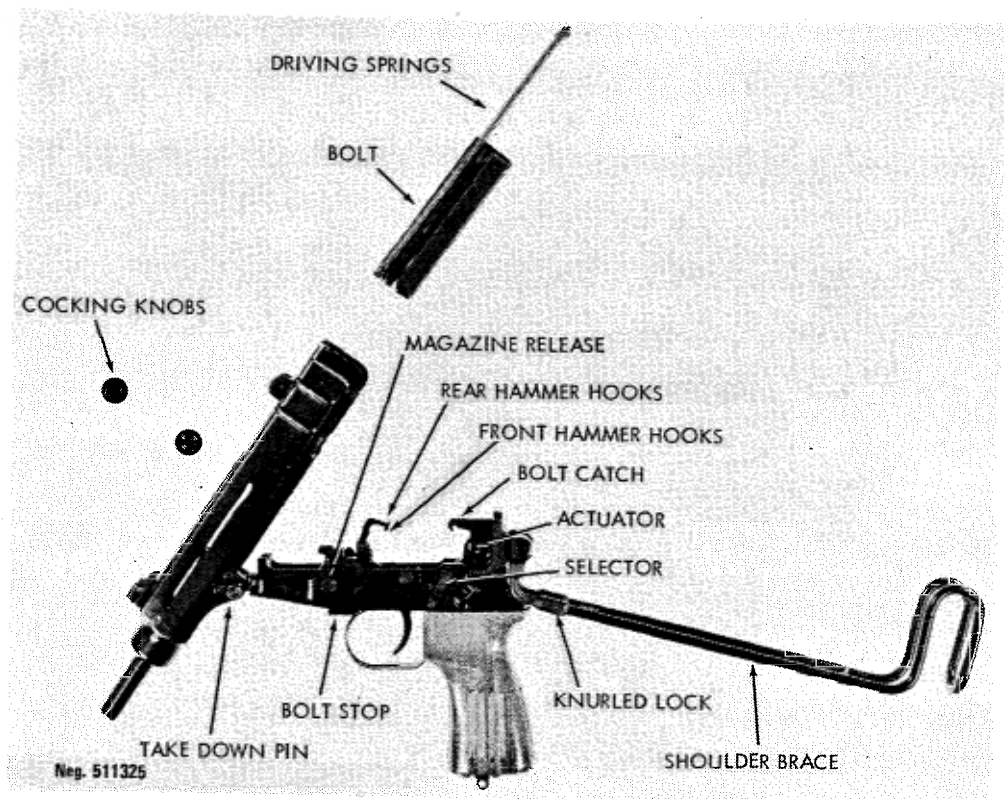

Figure 26. Vz61 disassembled.
(1) Extend the shoulder brace (para 39c). Clear the pistol (para 39f), but do not insert the magazine, or set the selector at "0".
(2) Pull the takedown pin (fig 25) out to the left as far as possible; pull the upper receiver unit forward about three-sixteenths of an inch, and then swing the barrel down (fig 26).
(3) Retract the bolt fully to the rear and pull the cocking knobs (fig 26) out to the sides. Pull the bolt and the driving springs out of the receiver.
(1) Insert the bolt and the driving springs into the upper receiver. Align the elongated holes in the bolt with the enlarged portion of the slot in the upper receiver and insert the cocking knobs. Slide the bolt fully forward.
(2) Swing the upper receiver down into position on the lower receiver and slide it to the rear until the dismounting pin can be pressed back into position. Insert the magazine and fold the shoulder brace forward. Set the selector at "0" and insert the magazine.
b. If the selector is set for semiautomatic fire, as the hammer rotates the rear hammer hooks (fig 26) force the sear rearward against its spring. The bolt returns forward under the force of the driving spring and loads a cartridge from the magazine into the chamber. The sear holds the hammer cocked by means of the rear hammer hooks, but when the trigger is released, the sear swings rearward and releases the hammer. The hammer, under force of its spring, starts to swing forward, but is caught by the trigger sear, which catches the front hammer hooks (fig 26). If the trigger is pressed, another shot will be fired, and this action will be repeated.
d. As the bolt completes its rearward stroke, it strikes the actuator (figs 26 and 27); this causes the actuator to pivot on its pin. Two actions then occur: